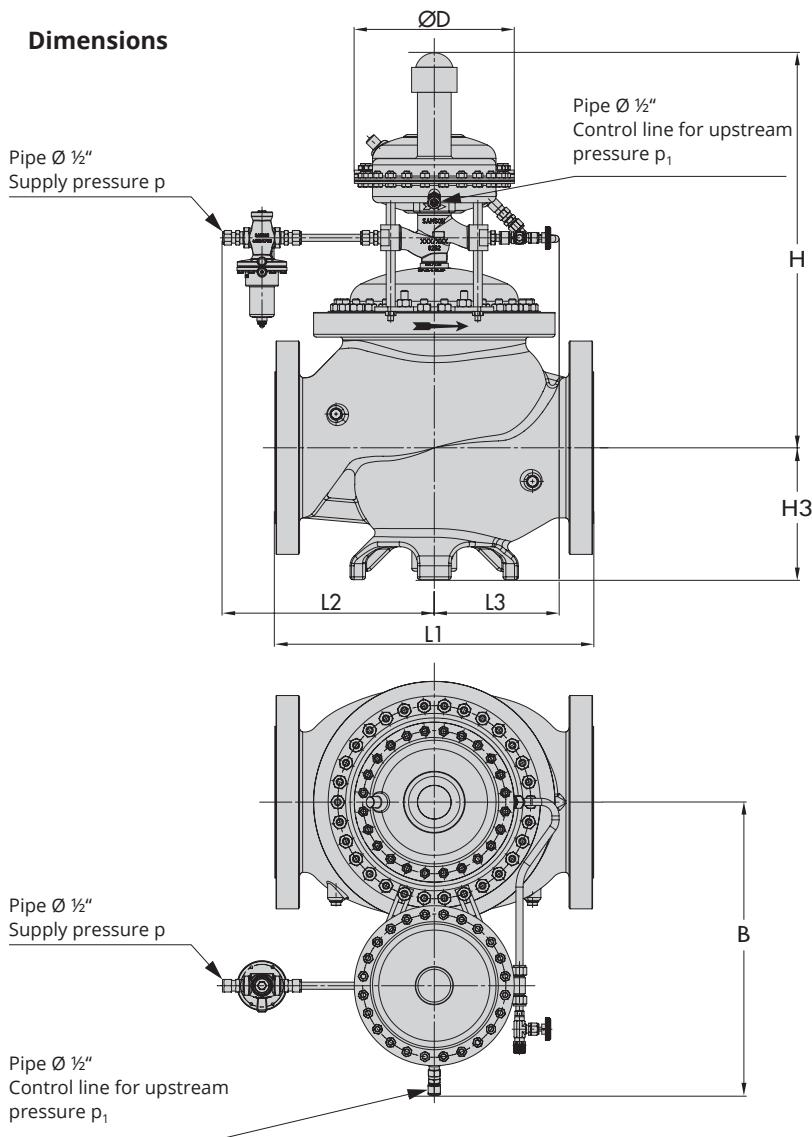
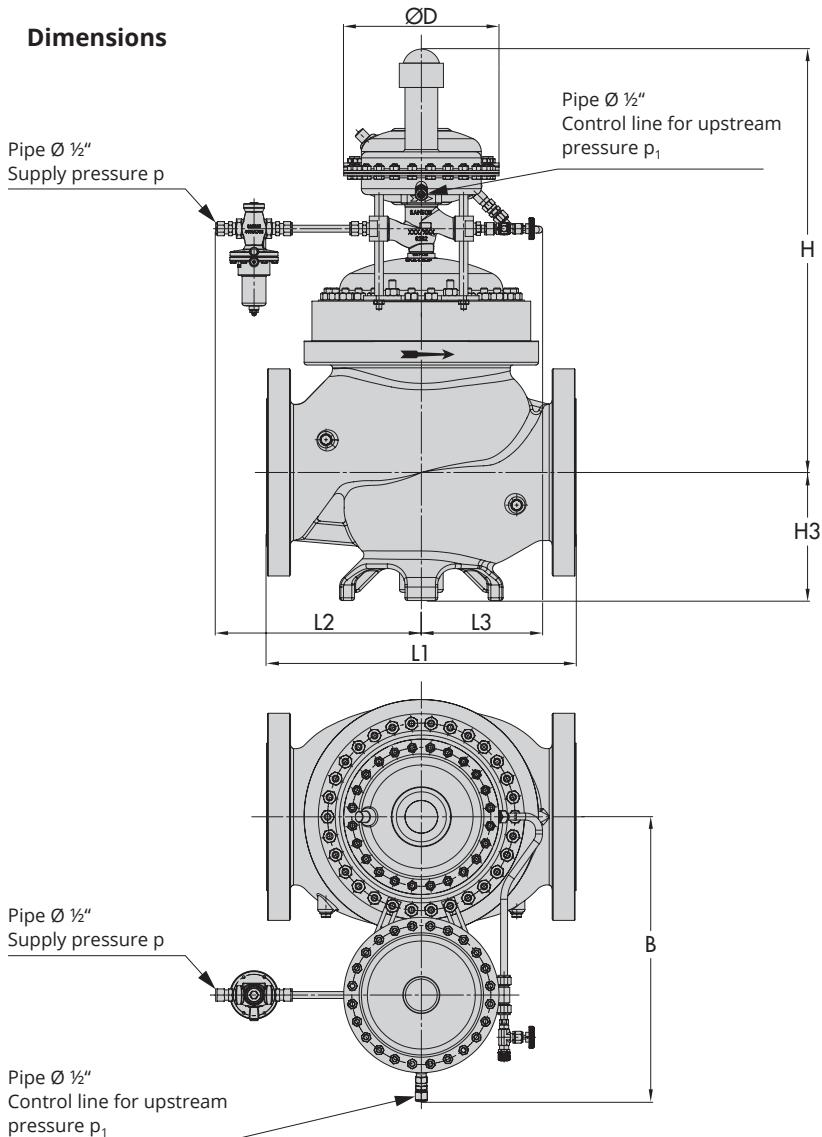

Fig. 3-11: DN 200 to 400/NPS 8 to 16 · Versions with seal/diaphragm made of EPDM/NBR
Fig. 3-12: DN 200 to 300/NPS 8 to 12 · Versions with seal/diaphragm made of FKM
**Table 3-9:** Dimensions · DN 200 to 400 · NPS 8 to 16 (see Fig. 3-11 and Fig. 3-12)